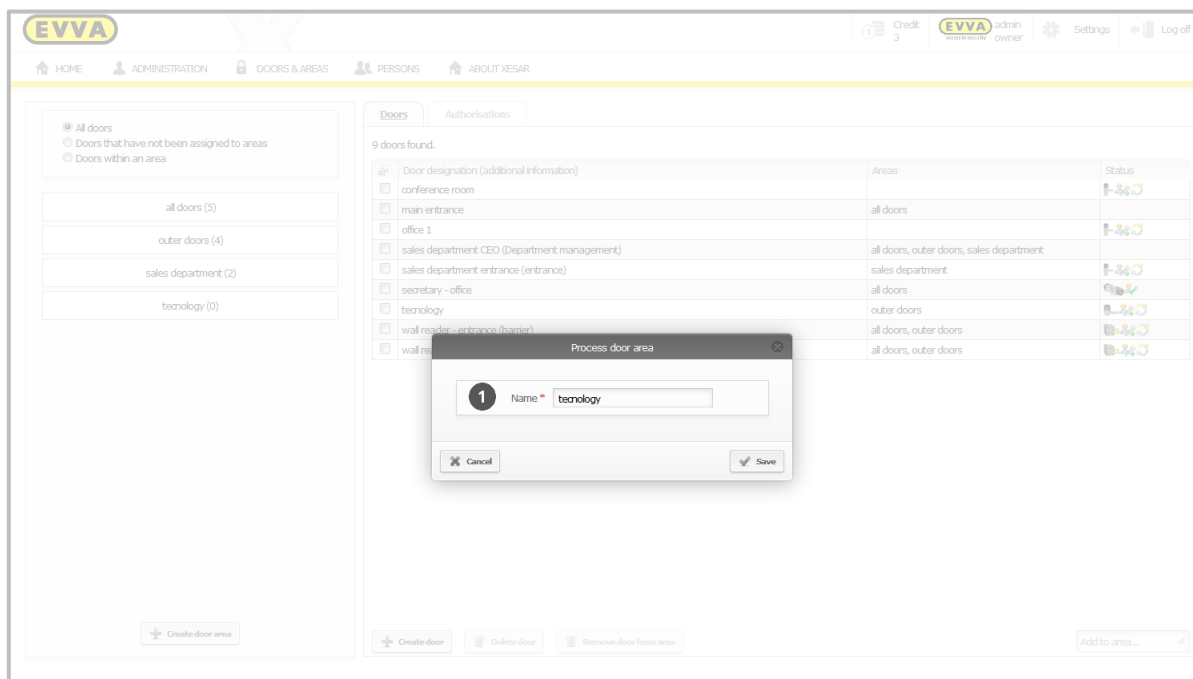

Figure 71: Renaming areas
- Enter the new area designation in the **Name** field of the dialogue window (Figure 71: Renaming areas) and click **Save** to confirm.